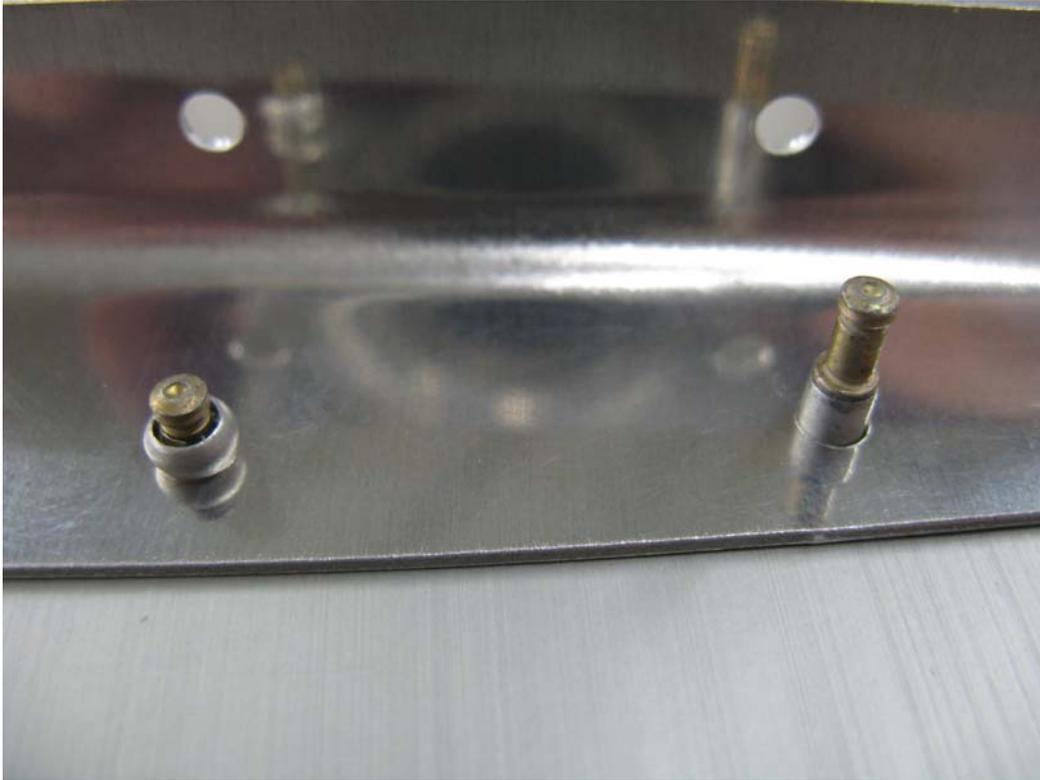

FIGURE 14C: CR32XX
- iii. Stem will not be pulled fully into rivet body at shop head end, but rivet body should have formed (closed up) around stem as shown in left-hand side of Figure 14C. See Figure 14D for acceptable blind head formations.